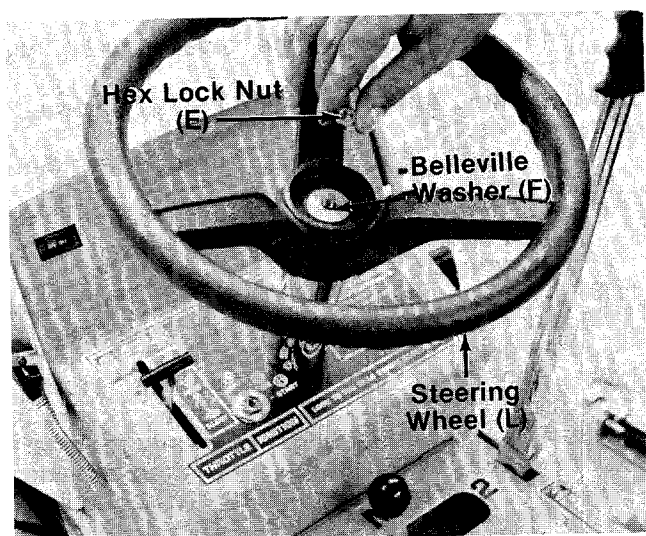

FIGURE 3.
2. Place the steering wheel (H) over steering shaft and steering tube. See figure 3.
3. Secure steering wheel (L) with belleville washer (F) (cup side down) and hex lock nut (E). See figure 3. A 1/2" wrench is required.